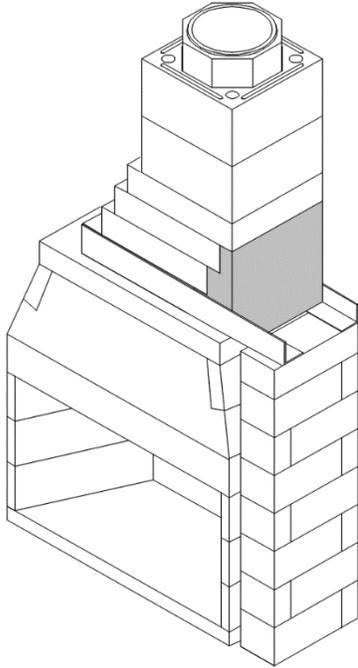

FIGURE 38
To create proper support, construct a support column against the firebox from bearing up to the level of the smoke dome. Bridge from the column over to bearing on the smoke dome with two pieces of four-inch (4'') by four inch (4'') by five-eighths inch (5/8'') steel angle. **(Figure 38)**
On the steel angles build a masonry or steel support column up to the underside of the third offset block in the sequence. **(Figure 38)**
**NOTE:** For offset chimney block sequences that clear the side wall of the firebox below, it is allowable to support the first offset block that clears the firebox side wall and then to proceed with supports at each third offset block thereafter. **(Figure 38)**